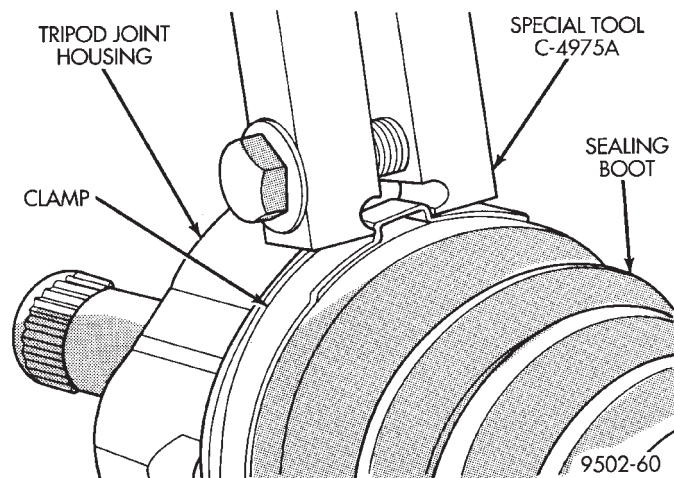
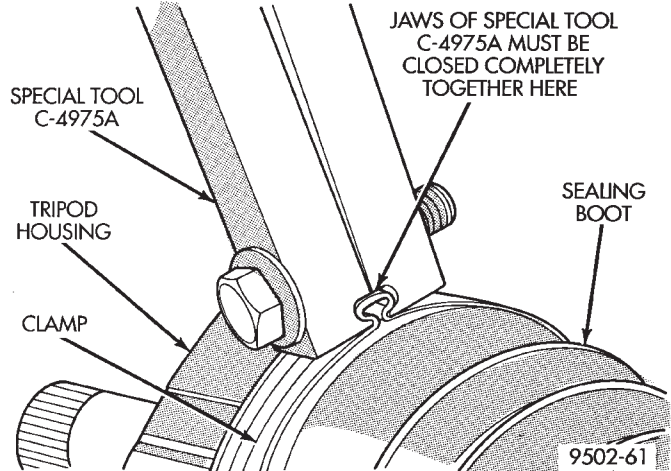

Fig. 49 Crimping Tool Installed on Sealing Boot Clamp
Fig. 50 Sealing Boot Retaining Clamp Installed
(8) Position outer C/V joint sealing boot into its retaining groove on outer C/V joint housing. Install sealing boot to outer C/V joint retaining clamp evenly on sealing boot.
(9) Clamp sealing boot onto outer C/V joint housing using Crimper, Special Tool C-4975-A and the following procedure. Place crimping tool C-4975-A over bridge of clamp (Fig. 49). Tighten nut on crimping tool C-4975-A until jaws on tool are closed completely together, face to face (Fig. 50).